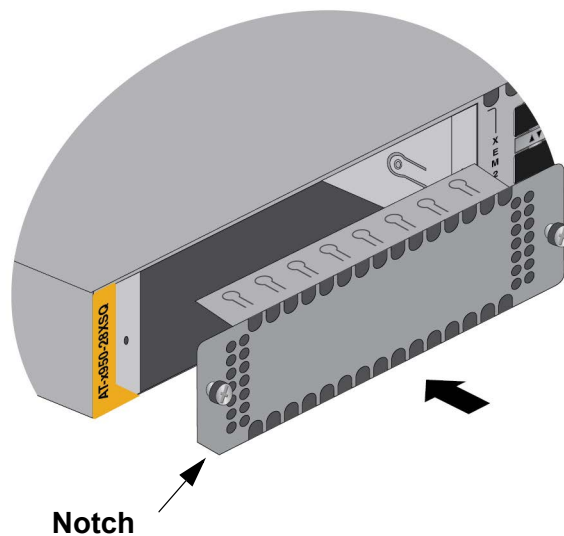

Figure 144. Installing the Line Card Blank Cover
9. Orient the blank cover as shown in Figure 144, with the notch on the bottom left, and slid it into the slot.